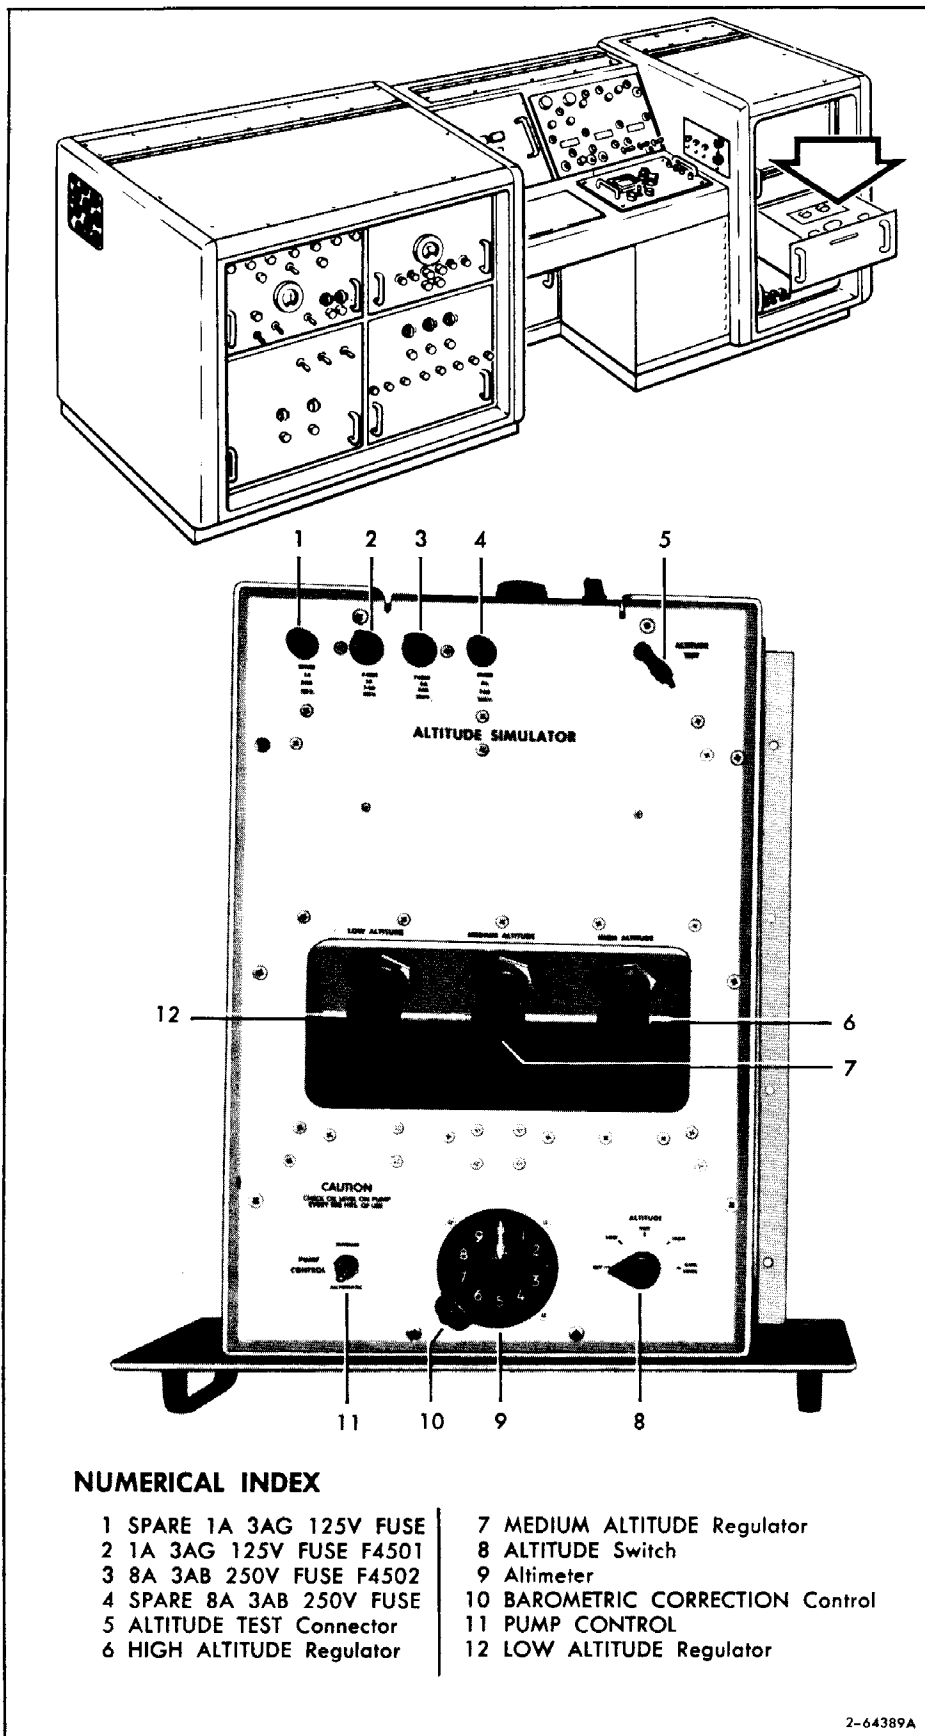
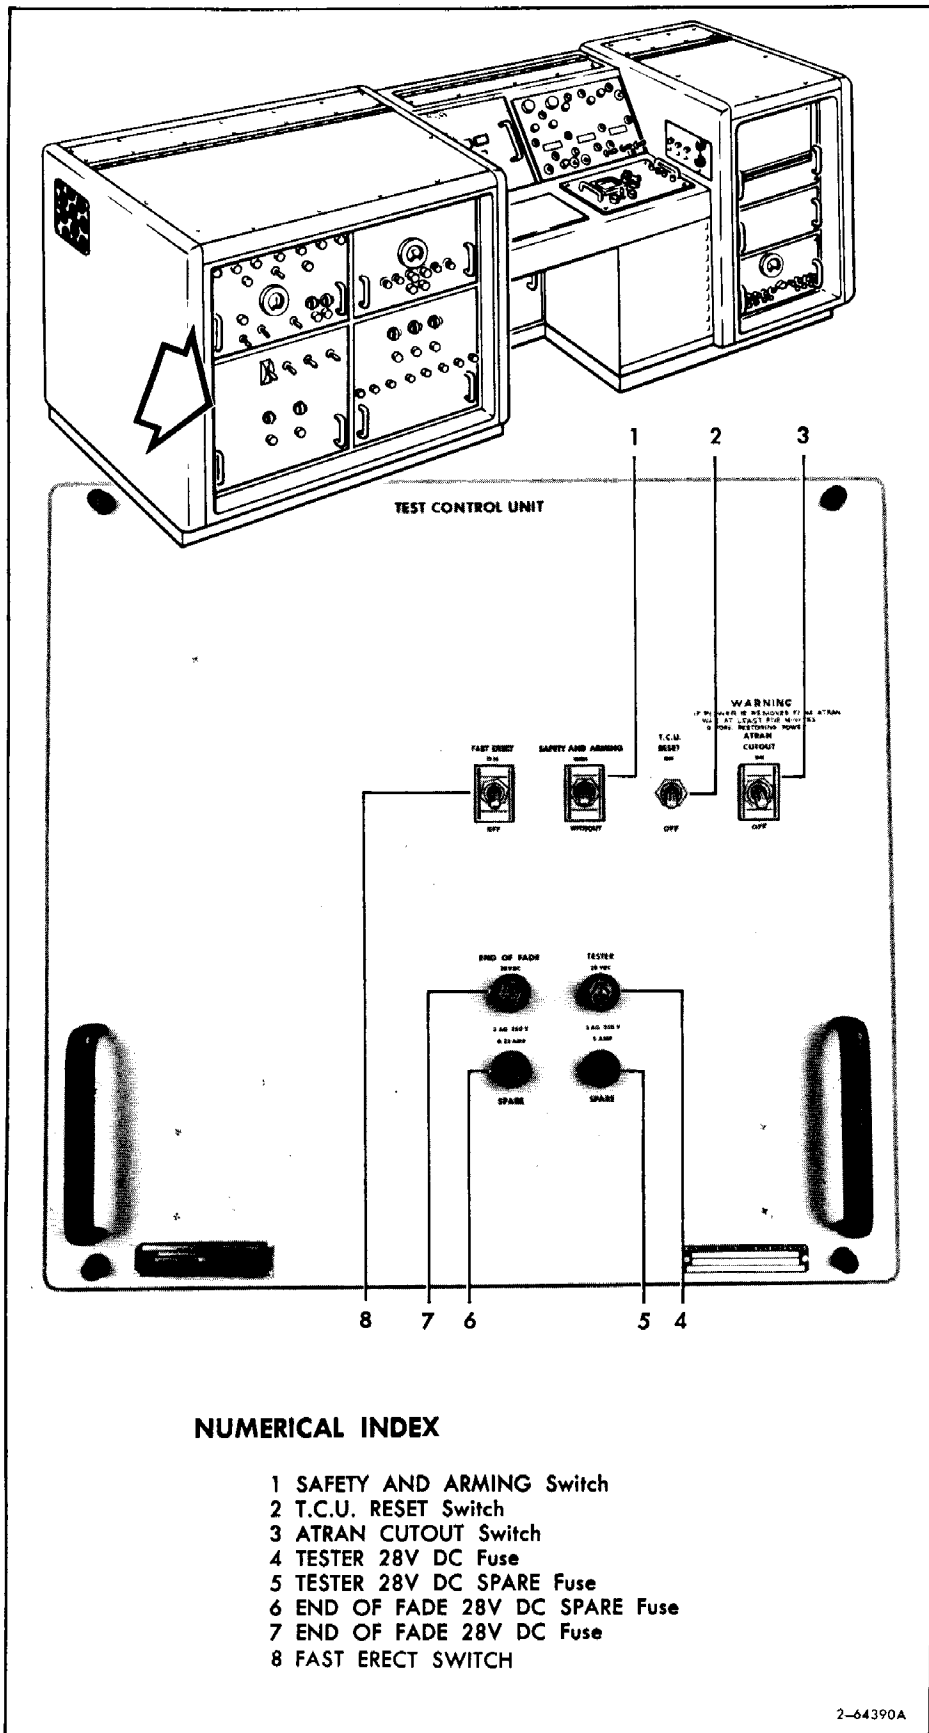

Figure 3-11. Altitude Simulator
Figure 3-12. Test Control Unit
- k. Release locks and slide Altitude Simulator (figure 3-11) outward until its control panel is accessible.
- l. Place PUMP CONTROL switch (11) to AUTOMATIC.
- n. Place ATRAN CUTOUT switch (3, figure 3-12) on Test Control Unit OFF.
- o. Place SAFETY AND ARMING switch (1) to WITH.
- a. Pull Altitude Simulator chassis out to make controls accessible (figure 3-11).
- b. Place PUMP CONTROL switch (11) at MANUAL.
- c. Place ALTITUDE switch (8) at GND LEVEL.
- d. Using barometric correction control adjust barometric correction control (10) until barometric correction dial indicates 29.92.
- g. Place ALTITUDE switch (8) to HIGH ALTITUDE.